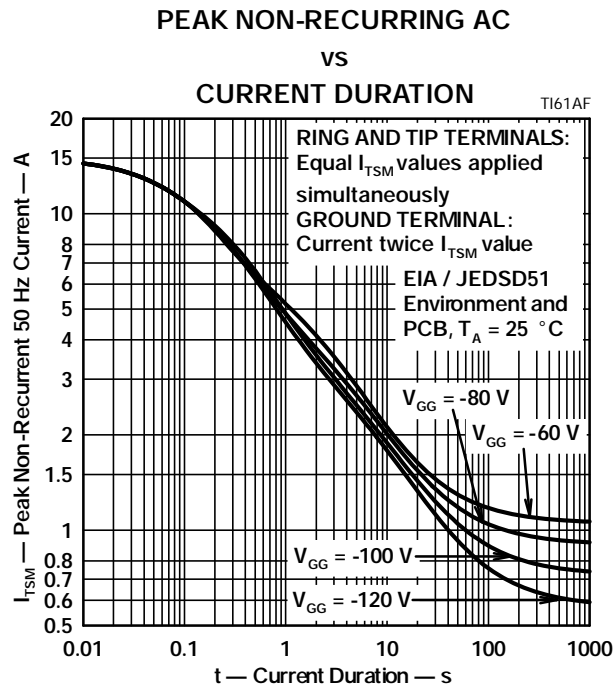

Figure 2. Non-Repetitive Peak On-State Current against Duration
3. Values for $V_{CG} = -48\text{ V}$. For values at other voltages, see Figure 2.